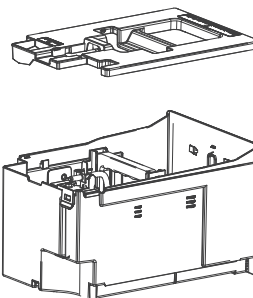

Fig. 9
- Take out the water bucket from the unit and remove the bucket top cover. (as shown as Fig. 9)